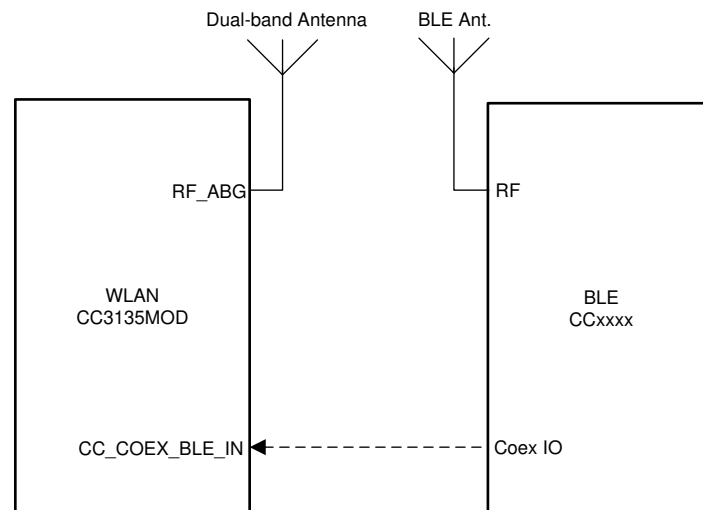

Figure 9-1. Dual-Antenna Coexistence Mode Block Diagram
- Dual-band Wi-Fi (see Figure 9-1)
Figure 9-1 shows the dual antenna implementation of a complete Bluetooth® low energy and WLAN coexistence network with the WLAN operating on either a 2.4GHz or a 5GHz band. Note in this implementation no Coex switch is required and only a single GPIO from the BLE device to the CC3135 device is required.